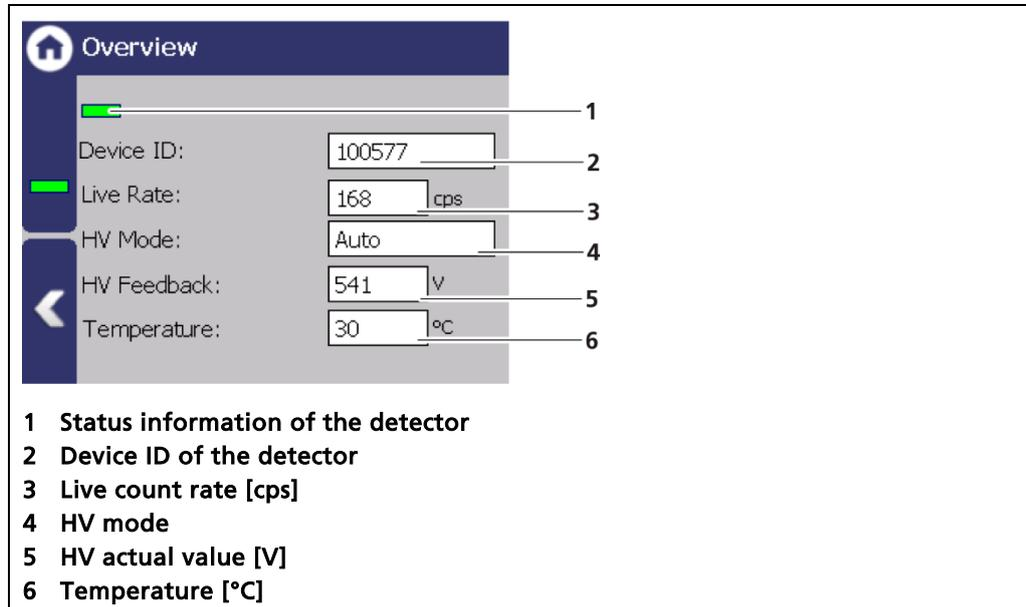

Fig. 62 Overview detector information
A green bar appears with error-free status of the detector (Fig. 62, item 1).
The "Live rate" (Fig. 62, item 3) displays the current, un-filtered count rate.
In the field "HV mode" (Fig. 62, item 4), the HV mode is displayed, which is chosen under Device Setup | Setup | Sensors | [NAME DETECTOR] | High voltage | HV settings.
The field "HV Feedback" (Fig. 62, item 5) displays the actual measured value in volts.
The field "Temperature" (Fig. 62, item 6) indicates the current temperature of the detector in C°.